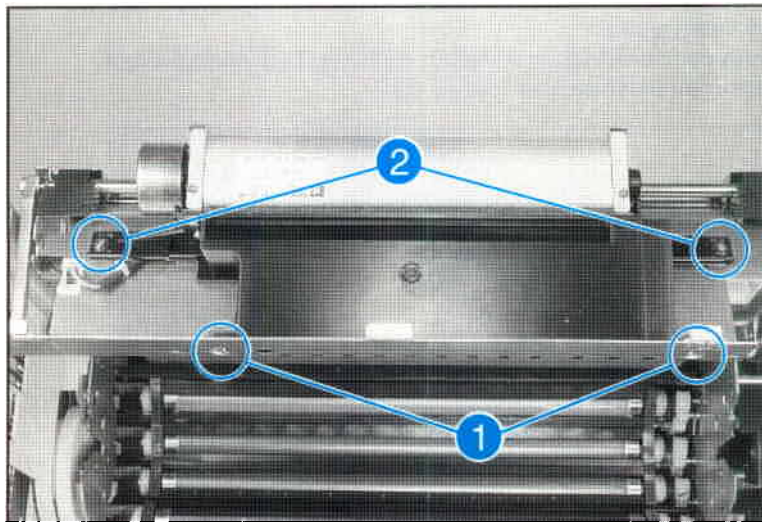

Figure 6-32 Upper Cooling Fan Removal
3. Remove (2) Trushead screws and (2) self-tapping screws (see Figure 6-32, items 1 and 2).